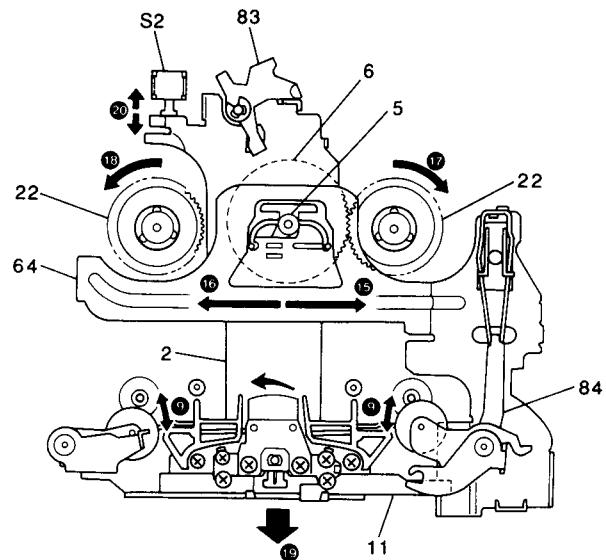
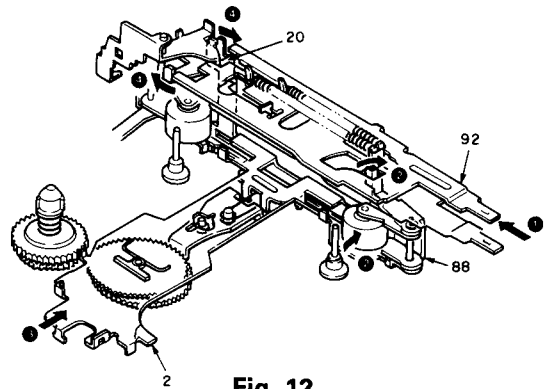

Fig. 11
Fig. 12
e) The play gear metal (5) is engaged, per arrows (15) and (16) in Fig.11. Then play gear (6) is connected to take-up reel assembly (22) on forward side in FWD play, and connected to the other take-up reel assembly in REV play. Rotation from the play clutch (31) is transferred to take-up reel assembly per arrows (17) and (18) in Fig.11. As mentioned above, the direction in play mode can be changed. During play mode active, the head panel is moved backward by head panel return arm (88) in direction of arrow (19) in Fig.11. The Mute switch (S2) is turned on per arrow (20), and play mode is not reversed while FF/REW levers are pushed by operation of anti-reverse arm (33). See Fig.12.